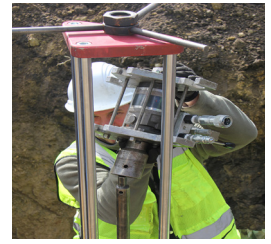

FIGURE 28
2.4.5) Lower the drive unit onto the machined hex of the saw mandrel. Confirm the drive unit is fully seated onto the machined hex of the saw mandrel (see Figure 28).